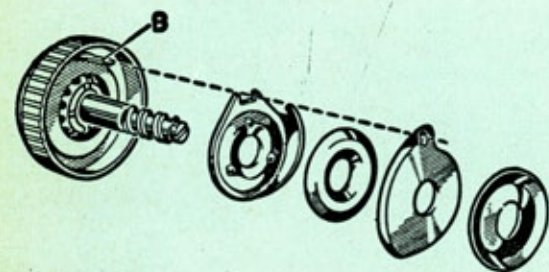

Fig. 33
- Disassemble parts as in Fig. 33.
- Assemble parts exactly as shown in Fig. 33 and in such a way that the « 0 » mark will be visible on knob « A ».